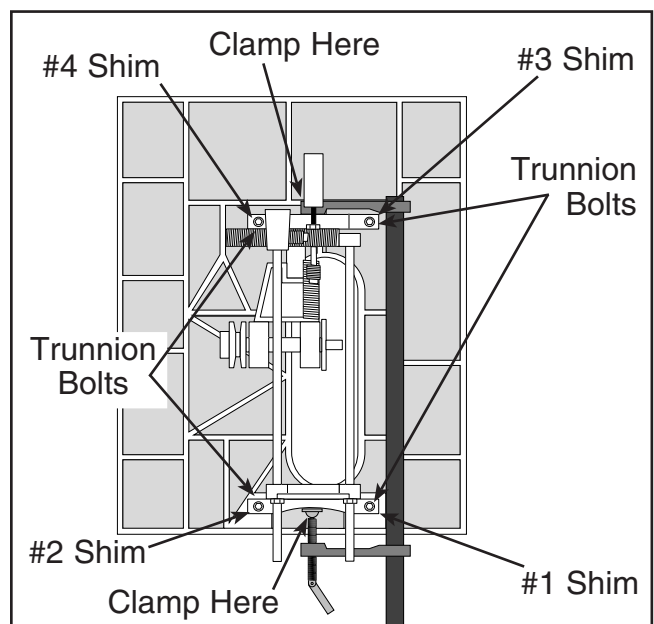

Figure 65. Underside view of table/trunnion assembly.
11. To maintain the trunnion assembly as one unit, place a bar clamp across the entire trunnion assembly as shown in **Figure 65**.
1. Loosen the trunnion bolts (**Figure 65**).